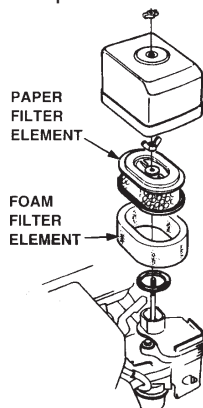

Figure 18. Air Filter
2. To clean or replace air filter loosen the wing nut on the air filter housing (Figure 18), remove the cover and take out air filter cartridge. If only cleaning of the air filter is desired blow through the air filter cartridge from the inside, moving a jet of dry compressed air up and down until all dust is removed.